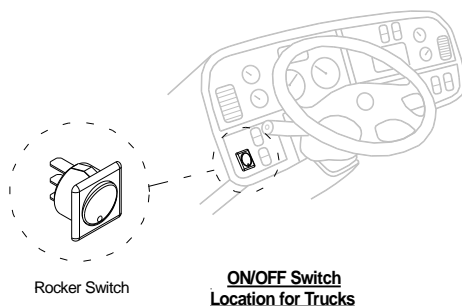
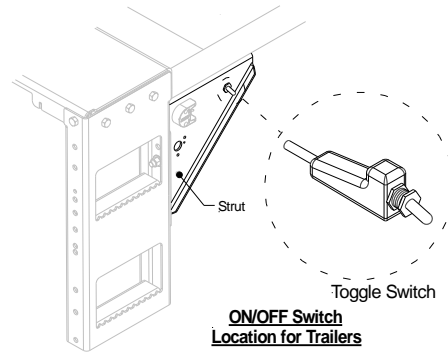

Fig.3
Fig.4
1. Power on the liftgate by switching the ON/OFF switch **ON**. ON/OFF switch location for a truck is located in the cab, **Fig.3**, for a trailer it will be located on the dock bumper strut, **Fig.4**.